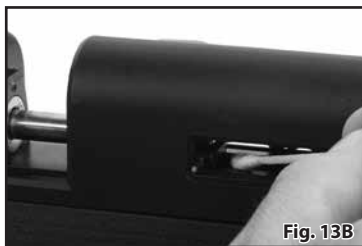

Fig. 13B
4. Using a cotton swab apply a graphite moly grease to the bore surfaces of the receiver where the bolt mechanism slides as shown in Figure 13B. CRC Industries Moly-Graph is a suitable grease for this application. Perform this procedure at approximately 200 shot intervals. Removal of the rubber filler in the cheek piece is recommended to gain access to the surfaces requiring lubrication.